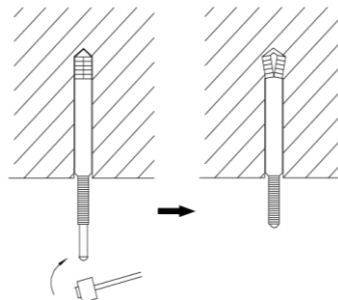

Fig.4.3
- (2). Insert the anchor bolts into the drilled holes, and drive the pins completely into the anchor bolts with a hammer (Fig. 4.3).